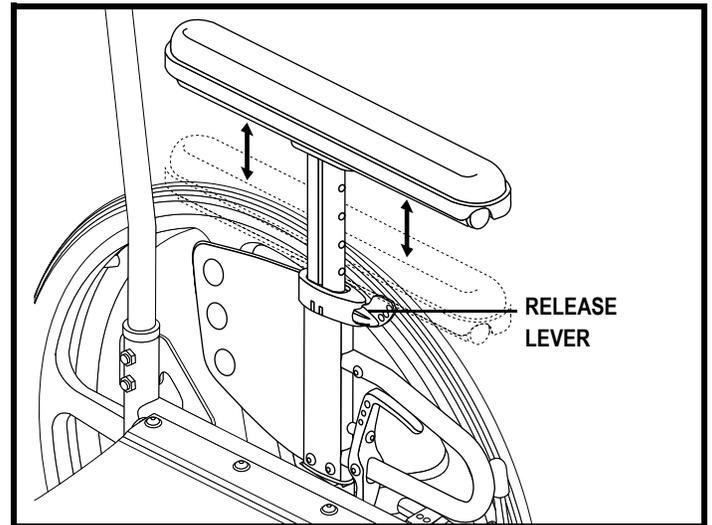

Figure 32. Drop-in Armrest Height Adjustment
1. Pull back the release lever located on the armrest. See figure 32.